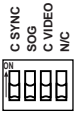

**Figure 2-1 — Video jumper configuration**
1. Remove the three screws on each side and the two screws on top of the cover (figure 2-1).
5. Locate J3 on the RGB video printed circuit board. See figure 2-1.